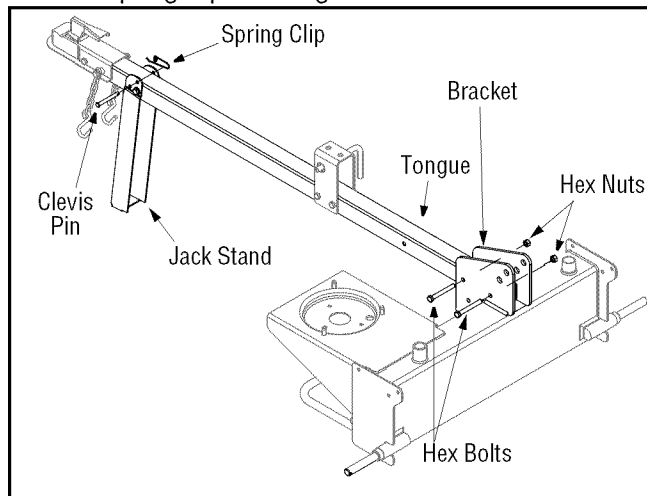

Figure 1
- Secure the jack stand in position with the clevis pin and spring clip. See Figure 1.
- With the log splitter still standing upright, remove two hex bolts and hex nuts from the end of the tongue. See Figure 1.
- Align the holes in the tongue with the holes in the tank bracket and secure with hardware just removed. See Figure 1.